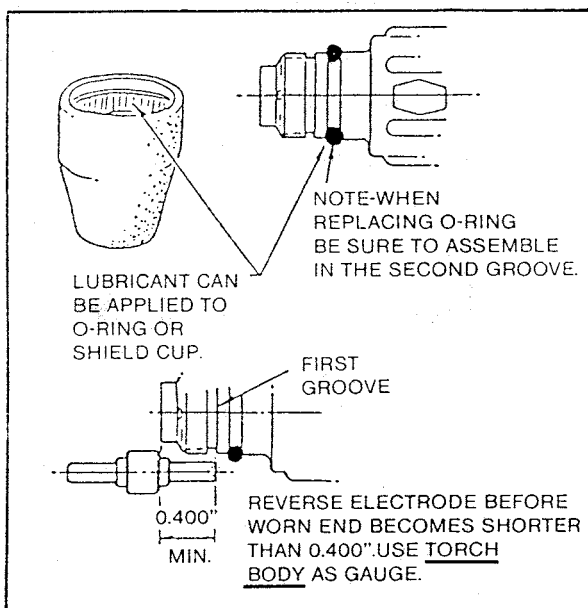

Figure 4-B Electrode and O' Ring Maintenance.
- b. Electrode-check the length as shown in Figure 4-B using the torch body as a gauge.